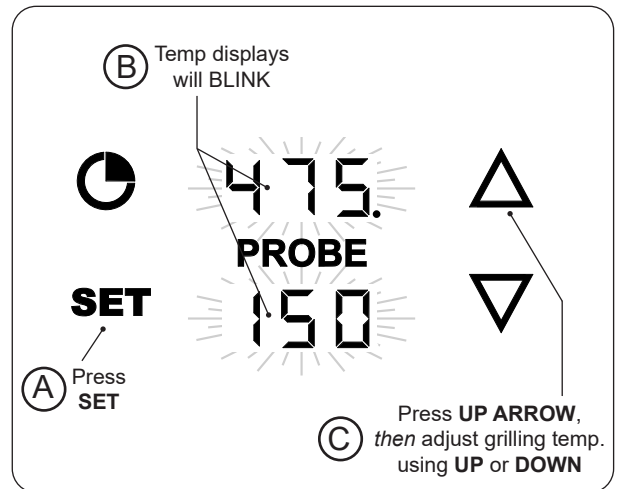

Fig. 31-1 Set grilling temp.
1. With the thermometer/thermostat **on**, press the **SET** button once. The grilling and probe displays will blink. (While blinking, either area can be selected to enter their settings.) See Fig. 31-1, A and B.
2. Press the **UP ARROW** to select the grilling temp settings, then use the up or down arrows to set the desired temp. (Fig. 31-1, C).